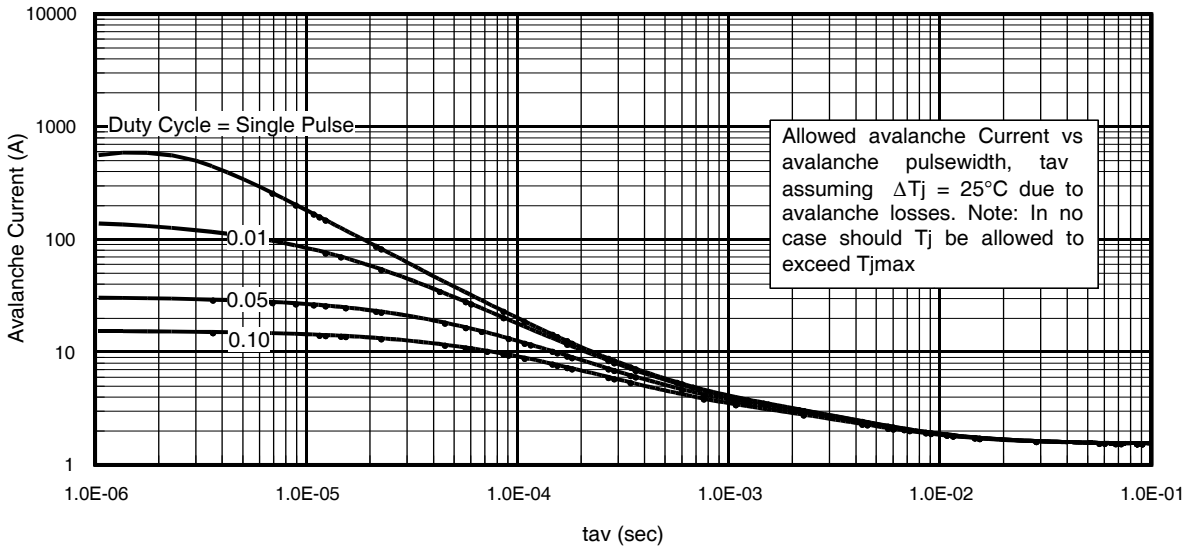

Fig 15. Typical Avalanche Current Vs.Pulswidth
Notes on Repetitive Avalanche Curves , Figures 15, 16:
7. ΔT = Allowable rise in junction temperature, not to exceed T_{jmax} (assumed as 25°C in Figure 15, 16).